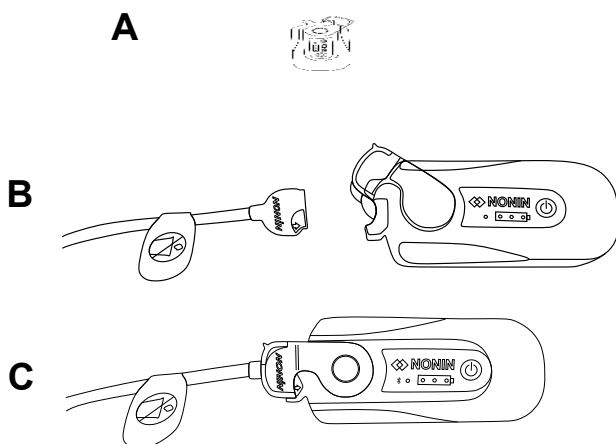

Figure 9. Connect Sensor to Signal Processor
- a. Flip the clear lock on the signal processor back to expose the connection port (**Figure 9.A**).
- b. Insert the sensor connector into the signal processor connection port (**Figure 9.B**).
- c. Flip the lock over the sensor connector and click it into place (**Figure 9.C**).